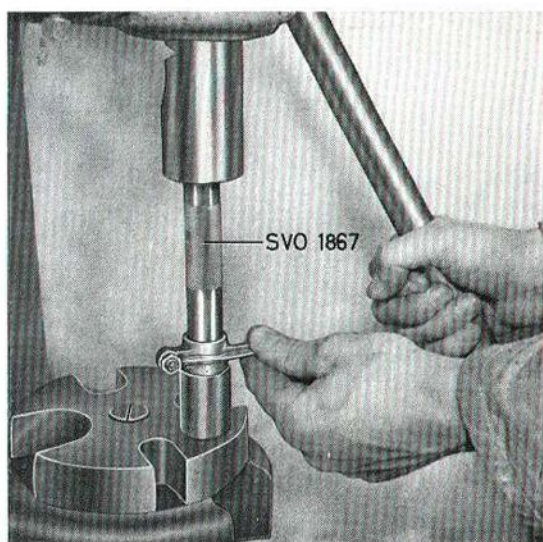

Fig. 2-35. Replacing bush in rocker arm
- If wear amounts to 0.1 mm (0.004"), replace the rocker arm bush. Use tool 1867 for pressing the bush out and in, see Fig. 2-35. Then ream the bush to an accurate fit on the shaft using a suitable reamer. The hole in the bush should coincide with the hole in the rocker arm.